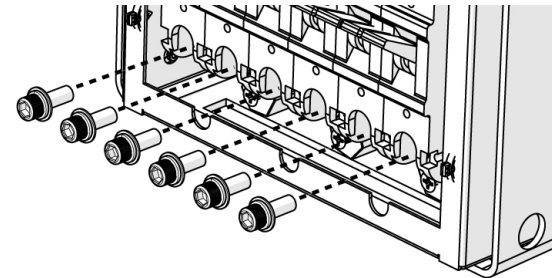

Figure 4. 3/8 in. socket head hardware
Step 2. Remove the 3/8 in. socket head cap hardware from the bottom of the circuit breaker as shown in Fig. 4.